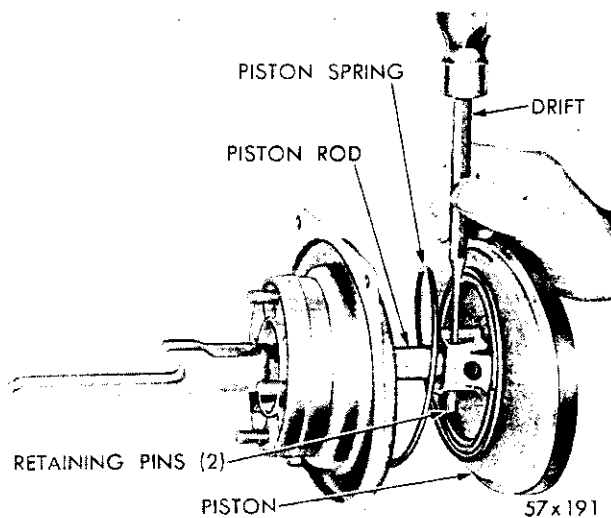

Fig. 56—Driving out Retaining Pins
(9) Drive out the piston rod retaining pins, using a $\frac{3}{16}$ inch drift, as shown in Figure 56. Remove the piston from the rod.